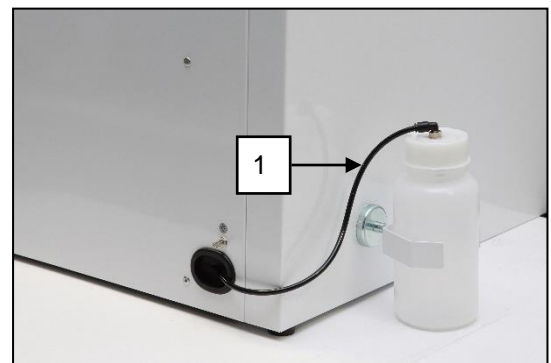

Fig. 8
Route the pressure hose through the opening in the rear wall of the cabinet for cabinet-mounted compressors. (Fig. 8)
### 13.3. Connecting the condensate vessel (Fig. 8)
- Route the power cord the rear opening in the cabinet or connect to the floor outlet (Fig. 8, 9).